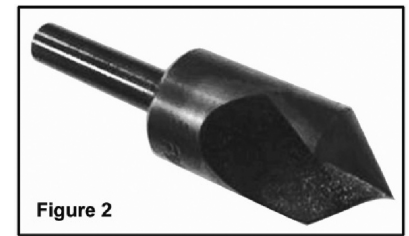

Figure 2
9. Prepare a single flute countersink bit or a bladed cutting bit, or equivalent, in a die grinder, Dremmel® Tool, or equivalent (Figure 2).